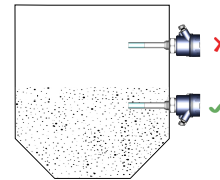

Figure 41: Cable Gland Arrangement
automation systems as shown in Figure 41. ASi-3 is based on a master-slave system where single master can transfer input and output data with up to 62 slaves.
- To prevent the ingress of moisture and water seepage in side mounting position, the cable entries should always point downwards as shown in Figure 41.